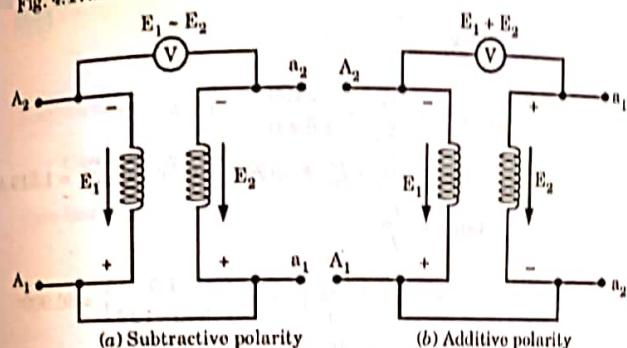

Fig. 4.17.2. Polarity test.
- In determining the relative polarity of the two-windings of a transformer, the two-windings are connected in series across a voltmeter while one of the winding is excited from a suitable voltage source as shown in Fig. 4.17.2.
- If the polarities of the windings are similar as shown in Fig. 4.17.2(b) then the voltmeter should read  $(E_1 + E_2)$ , which is called additive polarity.